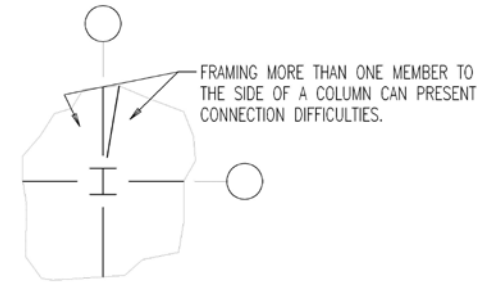

Figure 5: Avoid framing more than one member to any one side of a column.
- 19) **Avoid framing more than one member to each side of a column.** Framing multiple members to one side of a column can complicate connections and lead to problems installing bolts and welds. (Figure 5)
Please note: the numbering of graphics in this article begins with Figure 5, and is a continuation of the graphics numbering in the Part 1 article, August 2010 issue of STRUCTURE magazine.